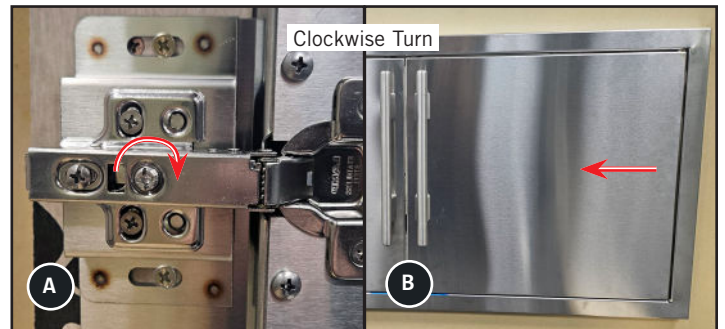

Fig. 4. Turn the horizontal adjustment screw clockwise to move the door away from the door casing.
- **Clockwise** turn moves the door away from the door casing. See fig. 4.